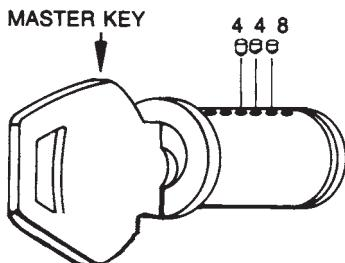

Figure 9.21 Subtract the change-key combination from the master key combination. The difference represents the length of the master pins. (Emhart Corp.)
12. Install the appropriate master pins (Fig. 9.21).